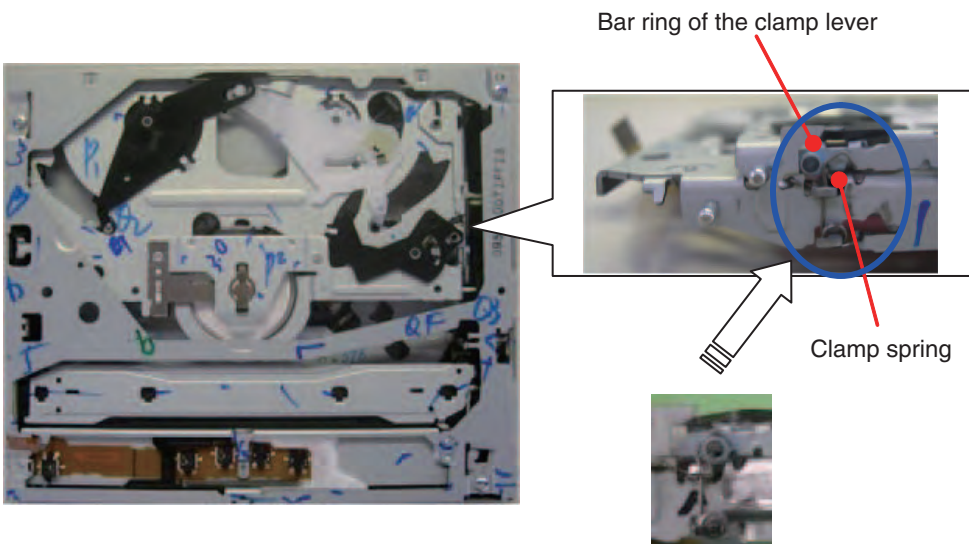

Fig 9
2. Even if the clamp lever has pushed the jump rack putting it in the clamped state, continue pulling the clamp lever toward you lightly until it is stopped. It should be noted that the ejection will not work if the bar ring of the clamp lever is positioned at the center of the hook shape. (Fig 9)